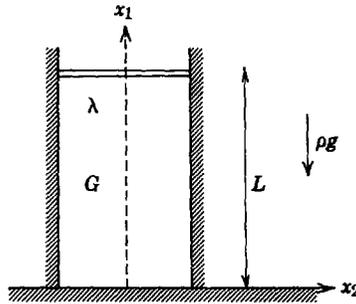

Fig. 11P.1
11.2. In Fig. 11P.2 a slab of elastic solid with constants ρ , G , λ and a thickness L is attached on one side to a rigid wall at $x_1 = 0$. A perfectly conducting thin plate of mass M is attached to the other side of the solid. A second perfectly conducting plate is fixed at $x_1 = -L - d$. Assume that $\partial/\partial x_2 = \partial/\partial x_3 = 0$ and $\delta_1(-L, t) \ll d$.